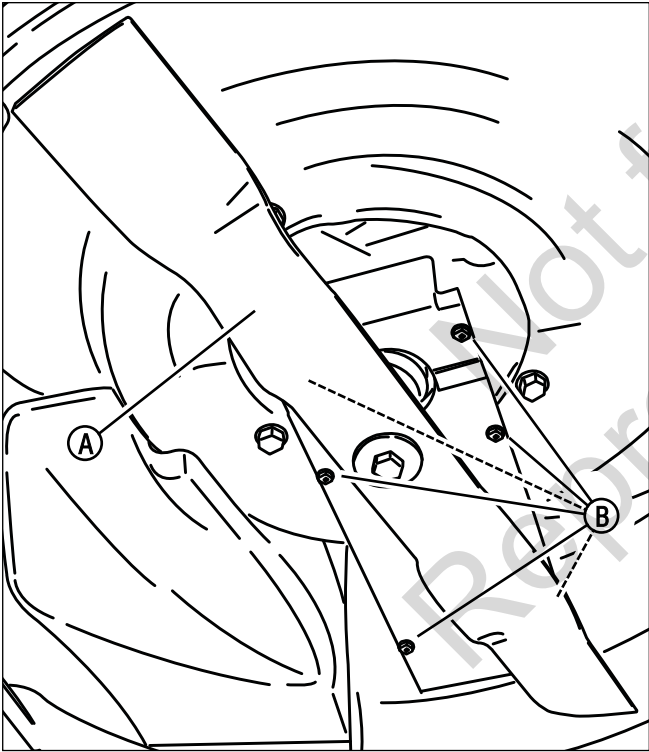

Figure 21: Removing the blade and belt cover
2. Remove the blade (**A, Figure 21**). Refer to the Section entitled "Blade Sharpening".